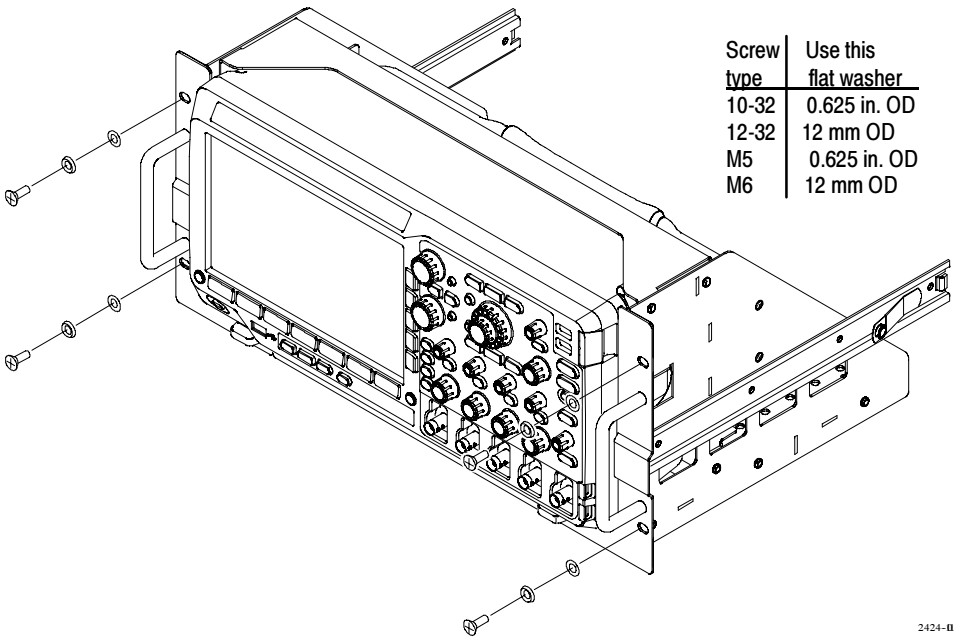

Figure 18: Securing the instrument to the rack
- b. Secure the instrument in the rack using the screws selected in part a of this step, with the recessed washers and flat washers as shown in Figure 18.